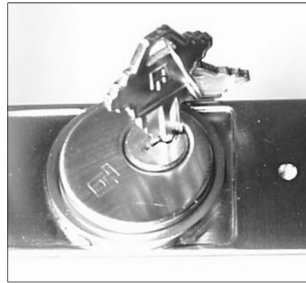

Fig. 1a: Insert key 1/2 way into cylinder and screw in
- 1a. **Insert key half-way into the cylinder, then screw it in.** See Fig. 1a. If cylinder will not seat flush, the cylinder back stop screw may require loosening. Cylinders that are longer than 1-1/4" will require a collar, which will stick out from the surface when correctly installed. Please see the cylinder information on the previous page.